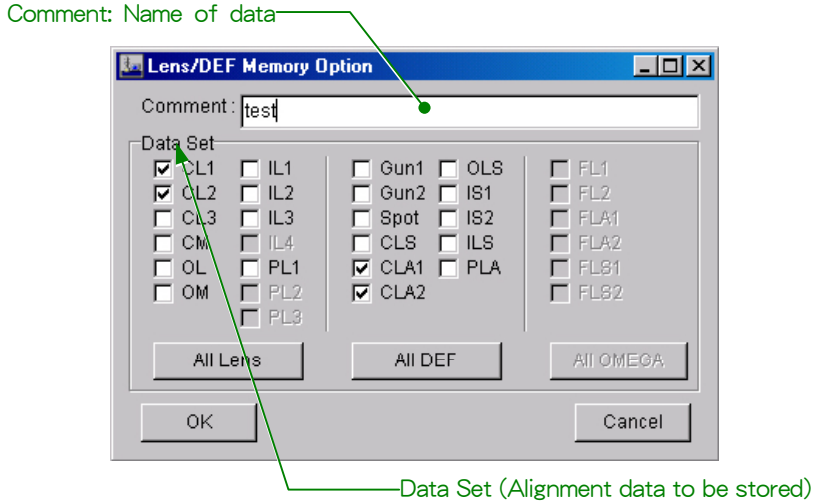

Fig. 5.64 Lens/DEF Memory Option window
2. Enter the name of the data from the keyboard (☞ Fig. 5.64).
Fig. 5.64 shows when “test” is entered as an example.
Fig. 5.64 shows an example when CL1, CL3, CLA1, and CLA2 are selected. If you want to select all the lenses or deflection coils, click on the **All Lens** or **All DEF** button.